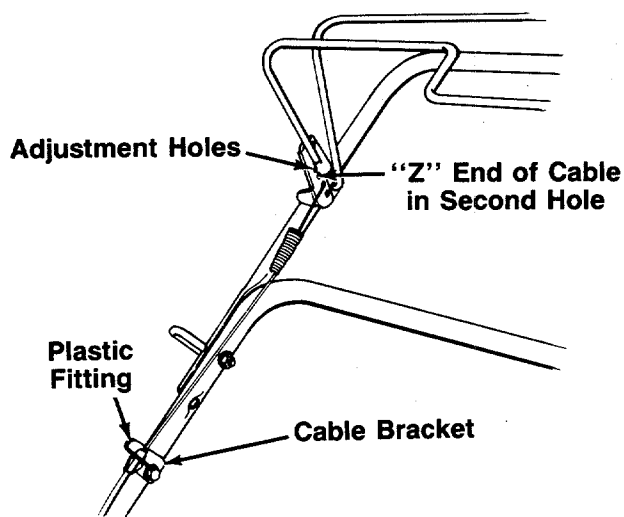

FIGURE 7.
1. The drive clutch control cable is attached to the drive cover, and has a spring on one end. Route the clutch cable inside the handle mount bracket and under the lower handle. Hook the spring on the end of the cable into the **second hole from the bottom** on the drive clutch control handle. See figure 7.
3. With the drive clutch control handle released, pull down on the cable and cable bracket until there is approximately 1/8" clearance between the drive pinions and the drive wheels. See figures 7 and 8. Tighten the cable bracket in this position.